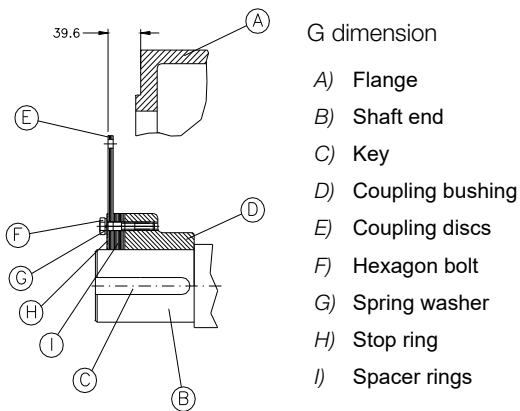

Figure 4.14: Procedure to change the G dimension
If it is necessary to change the "G" dimension, the position of the coupling discs (E) should be amended. To do this, simply remove or add the **spacer rings ( I )**, as shown in Figure 4.14.